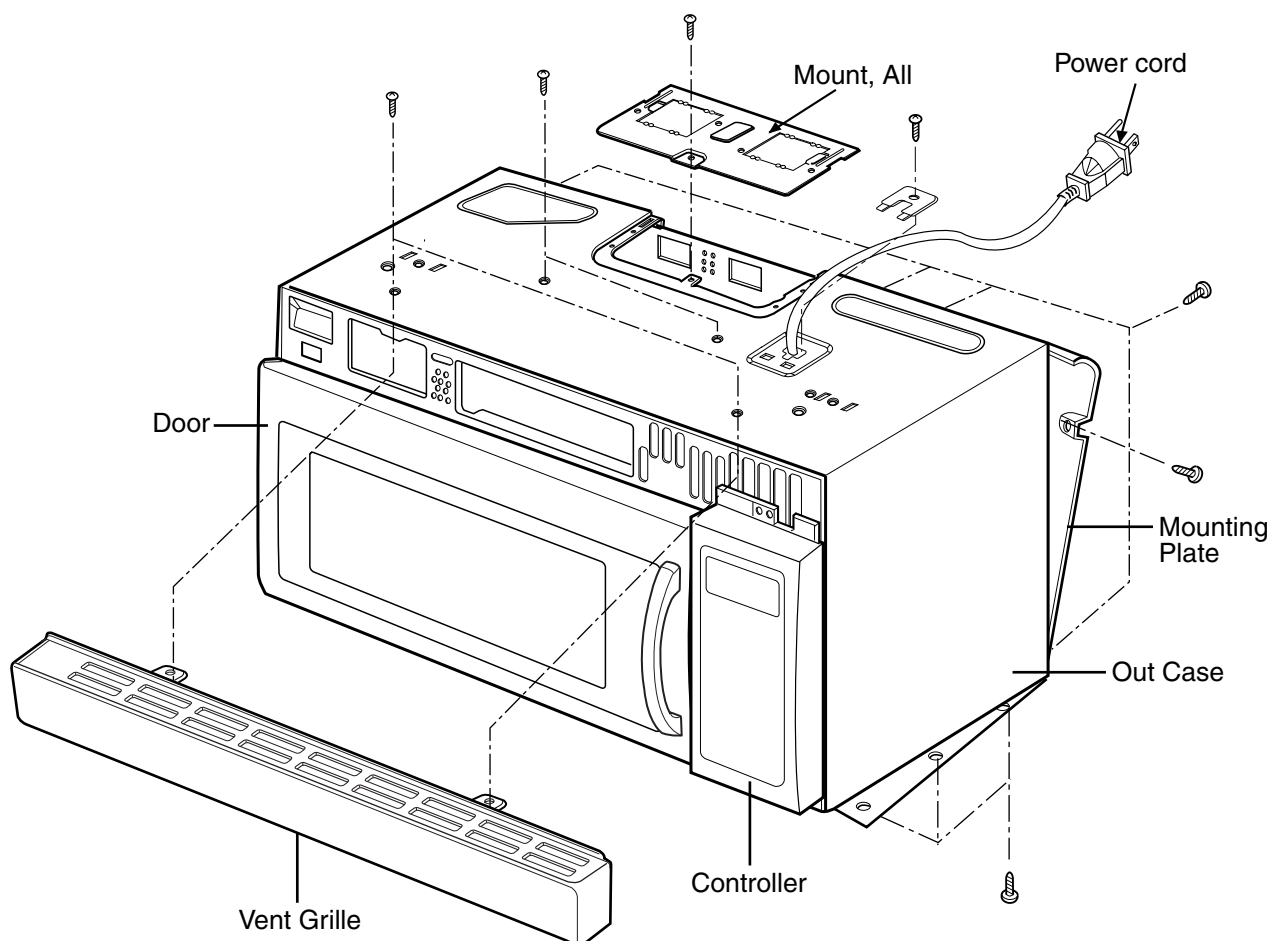

Figure 8
B. REMOVING THE OUT CASE (Figure 8)
- (1) Remove the vent grille by removing two screws securing it to the out case.
- (2) Remove two screws securing it to the air duct.
- (3) Remove the mounting plate by turning the screws (1 or 2 screws)securing it to the out case.
- (4) Remove two screws on the left central edge and two screws on the right central edge of Base plate. Remove the Mount, All from the out case by removing one screw securing it to the out case.
- (5) Remove four screws of the rear cavity.
- (6) Remove the outcase with disconnecting power cord connector.